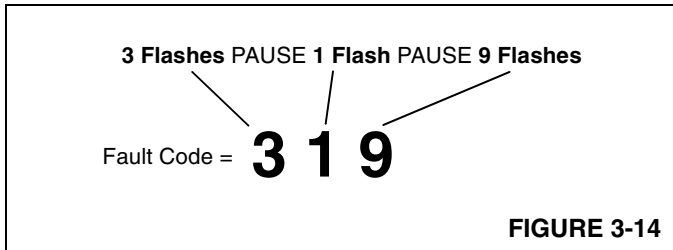

FIGURE 3-14
- c. Red STOP light flashes a three-digit code to show which active fault has been detected (refer to Figure 3-14 for example). There is a 1 to 2-second pause between each number.